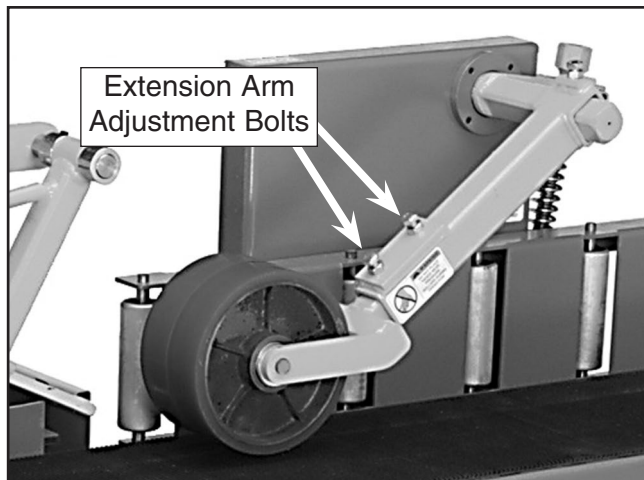

Figure 30. Infeed pressure roller.
2. Loosen the jam nuts and hex bolts that secure the extension arm of the infeed pressure roller (see **Figure 30**).